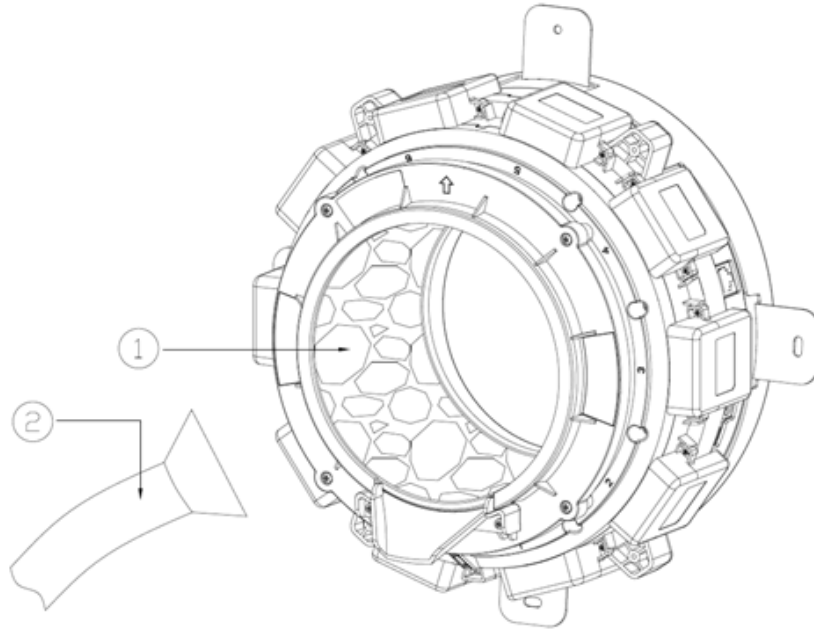

Figure 13-1
(13) Clean up the Shattered Glass Cylinder
As Shown in Figure 13-1, if the glass cylinder (1)(RVM100-GC) is broken, the maintenance personnel should wear protective gloves. Remove large pieces of glass (1), and then use an industrial vacuum cleaner (2) to clean the debris inside the scanner. Finally, replace the glass cylinder (1) with a new one.